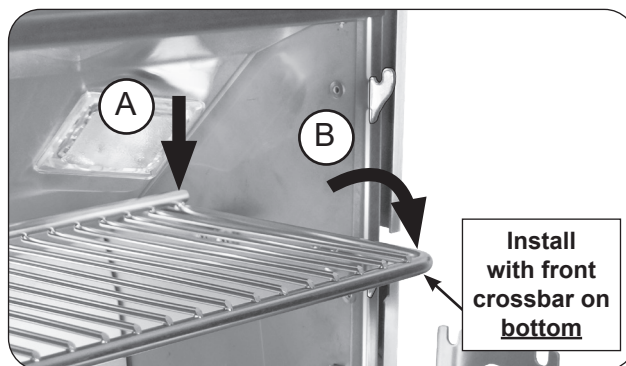

Fig. 27-2 Place warming rack for use
2. With the warming rack oriented as shown, carefully rest the rear of the rack onto the rear support plates (see Fig. 27-2, A), then lower the warming rack arms onto the lower hooks for use (see Fig. 27-2, B).